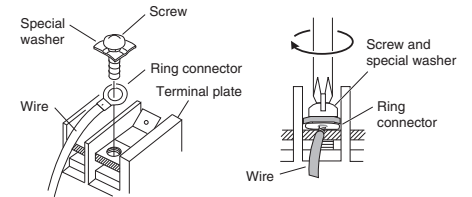

Fig. 3-57
- (4) Place the ring connector wire, and replace and tighten the removed terminal screw using a screwdriver. (Fig. 3-57)